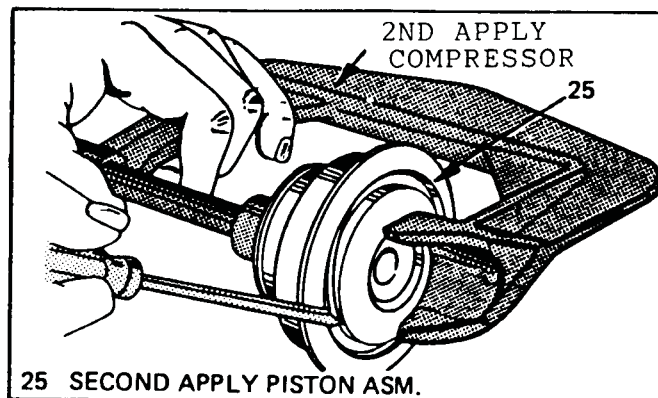

Figure 34
10. Install J-22269-01 on second apply piston as shown in Figure 34.